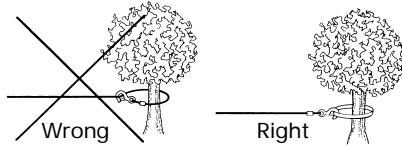

Figure 3
- NEVER HOOK THE WIRE ROPE BACK ONTO ITSELF. Use a nylon sling (Superwinch Part Nos. 2531 or 1509). Hooking the wire rope onto itself can damage the rope (Figure 3).